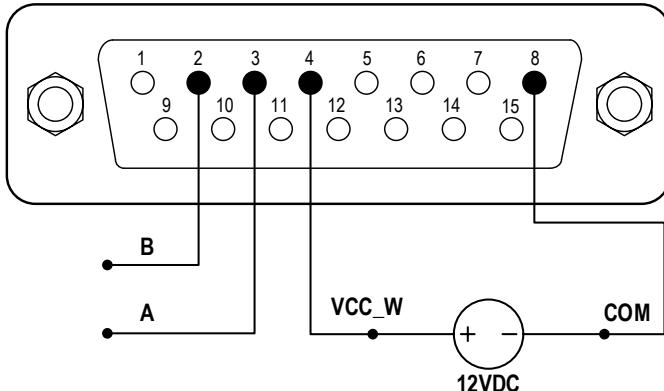

Figure 53. RS485 MODBUS Wiring
- 1) Turn the power off. Wire the DB15 connector as shown on Figure 53, and connect it to the DB15 port on the rear of the pump. External DC power source is recommended to avoid electrical interference.